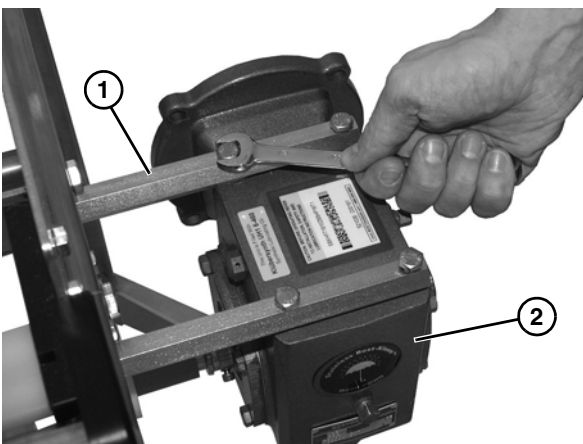

Figure 26
5. Unbolt the gear reducer hex mounting posts (**Figure 26, item 1**) from the gear reducer (**Figure 26, item 2**).